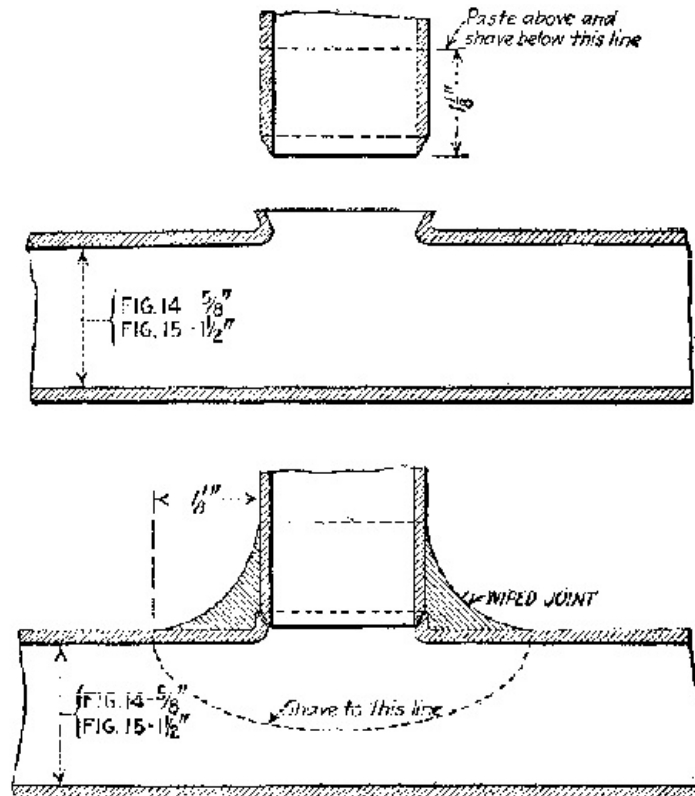

Fig. 30.—Branch joint.
hole to steady the branch pipe. Good workmanship will result in having a good substantial collar around the opening. The branch should now be fitted. Clean the pipe with the shave hook for about 2 inches on each side of the opening. With compasses set at  $1\frac{1}{8}$  inches, mark off a space on each side of the branch on the run, or on the  $\frac{5}{8}$ -inch pipe. On the sides of the pipe the two lines should be joined with an even and symmetrical curve. A good way to make this curve is with the shave hook. Now take a folded piece of paper and cut out the shape of one-half of the joint, then open the fold and the entire ellipse will be made. When this paper is cut, a sharp knife is used, otherwise a ragged edge will be made and a good finish of joint is impossible. The paper is now pasted and put on the pipe. The surplus paste on the edge of the paper should be wiped off with the fingers before the paper is put on the pipe. This prevents any paste squeezing out on the joint. The branch is now taken and perfectly fitted into the run. The end is cleaned with the shave hook and paper is pasted on the pipe, leaving  $1\frac{1}{8}$  inches of cleaned surface for wiping. The paste and the paper should now be allowed to dry. The position for wiping this joint is to have the run horizontal and the branch on an angle of  $45^\circ$  pointing away from the wiper. Figure 30 will bring out the above explanation very vividly.
**Preparation.**—To an experienced wiper, the procedure of preparing this joint and wiping it are so near like the  $\frac{5}{8}$ -branch joint that a detailed description would be unnecessary; but for the benefit of the beginner, I will repeat the details as they apply to this particular joint and thereby avoid any error. We will take the preparation of the run first. Square the two ends of the pipe with the rasp. Mark off the center of the pipe. With the round part of the rasp, held at right angles with the pipe, proceed to rasp down the crown of pipe where the center mark was made. Do not rasp through the wall of the pipe, but just enough so that the tap borer will enter the pipe with only a slight pressure. With the tap borer, tap a hole large enough for the bending irons to enter. Now proceed to enlarge the hole, first forcing the edges up and then forcing them back, making the hole larger and making a collar around the hole at the same time. Continue to open the pipe until the aperture is large enough for the branch pipe to enter. The bending irons must not come into contact with the inside wall of the pipe, for if they do the inside bore will be marred and be very ragged. As these joints are usually used on waste lines, these ragged places make an ideal place for lint and grease to collect and cause a stoppage. To make the inside of the hole even, a piece of  $\frac{1}{2}$ -inch pipe can be used in place of the bending irons. To cut out the oval from a piece of paper to fit the joint, fold the paper and cut out one-half of the oval. Now unfold the paper and the complete oval is obtained. The measurements of the oval are taken from Fig. 30,  $1\frac{1}{8}$  inches each side of the branch lengthwise of the run. These two lines are connected with a curved line as shown. This curved line can be made with the shave hook. Take the large edge of the shave hook and roll it along between the lines to be joined. A little practice will perfect one in doing this quickly. The beginner should make a number of these ovals so that he can get them perfect. The graceful appearance of this joint depends upon the neatness with which it is prepared. I do not want the beginner to think that a graceful shape of the joint is all that is to be desired or that it is the most essential point. Further along, perhaps, more vital requirements will be brought out and the beginner will be made acquainted with them.